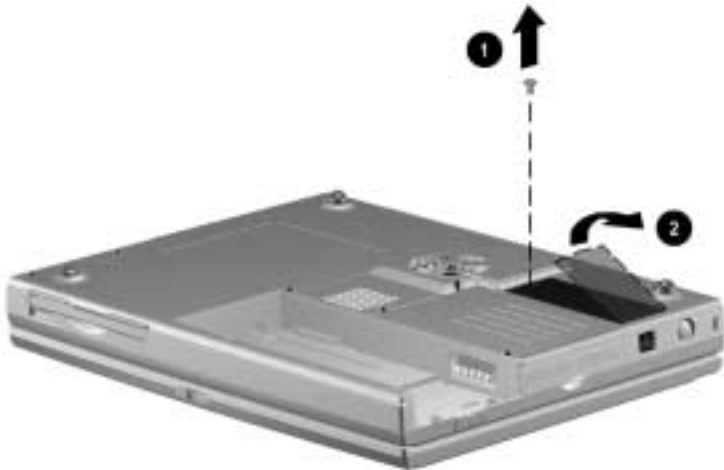

Figure 5-3. Removing the Modem Cover
3. Remove the screw ❶ securing the modem cover to the base assembly (Figure 5-3).
4. Lift the left side of the modem cover and swing it up and to the right ❷.